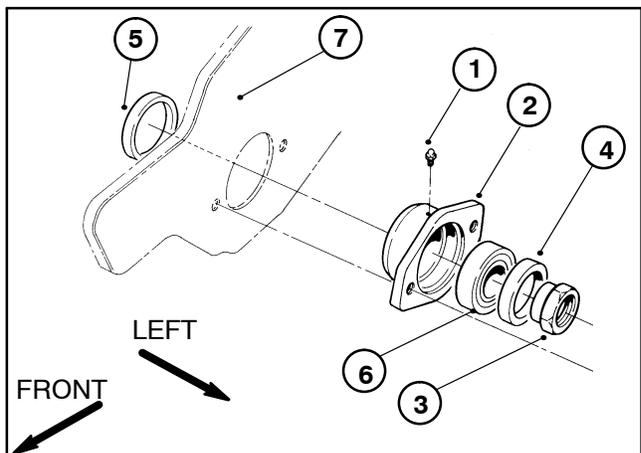

Figure 33
6. Remove the the bearing lock nut from the reel drive shaft as follows (Fig. 33):
- B. Remove large seal, small seal, and bearing from the bearing housing (LH) (Fig. 33).
- A. Bearing housing (RH) should be marked from disassembly.
3. Reassemble bearing housing (LH) components (Fig. 33).
6. Attach bearing housing (LH) through the frame onto the reel shaft (Fig. 33).
7. Install the bearing lock nut to the reel shaft as follows (Fig. 33):